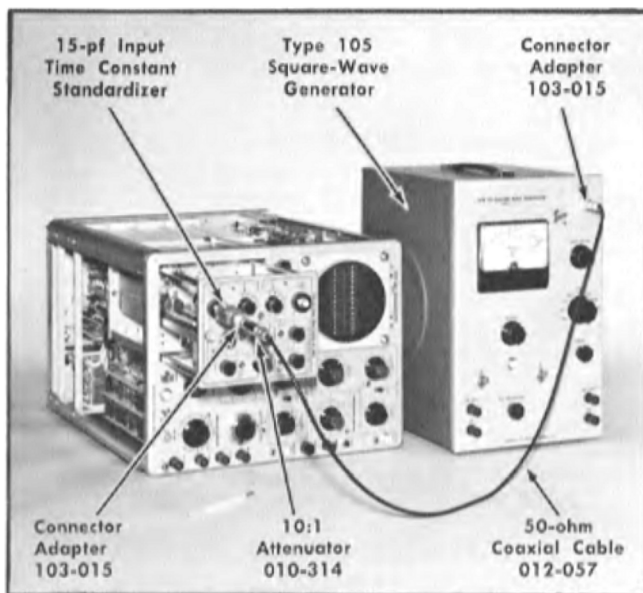

Fig. 5-6. The manner in which the Type 105 Square-Wave Generator should be connected to the Type 82 to perform the first part of step 24.
Turn on the Type 105 Square-Wave Generator, or equivalent. Set the generator for an output frequency of 2.5 kc and its output amplitude to minimum. Connect an adapter (Part No. 103-015) to the Output connector of the Type 105. Connect a coaxial cable (Part No. 012-057) to the adapter. To the other end of the cable, connect a 10:1 attenuator (Part No. 010-314), another adapter (Part No. 103-015), and a 15-pf input time constant standardizer (item 5)—in that order—to the Channel B INPUT connector. Fig. 5-6 shows the complete setup.
This step is similar to step 24. Therefore, use the information given in step 24 when performing this step. To make the adjustments, set the Type 82 MODE switch to A ONLY. Use the same setup as that shown in Fig. 5-6 except the signal must be applied to Channel A INPUT connector. (SN 101-2999, If you have constructed a metal shield, item 9, install the shield over the protruding part of the Type 82 so the access holes are positioned over the Channel A input-capacitance and attenuator adjustments.)